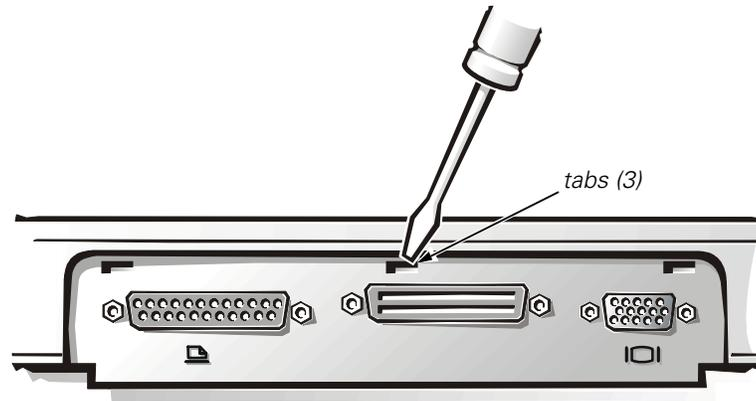

Figure 9. Status Indicator Panel Removal
Use a flat-blade screwdriver to press in on the three tabs that secure the status indicator panel to the back panel of the computer (see Figure 9).
2. Remove the status indicator panel (see Figure 9).
1. Remove the status indicator panel (see Figure 9).